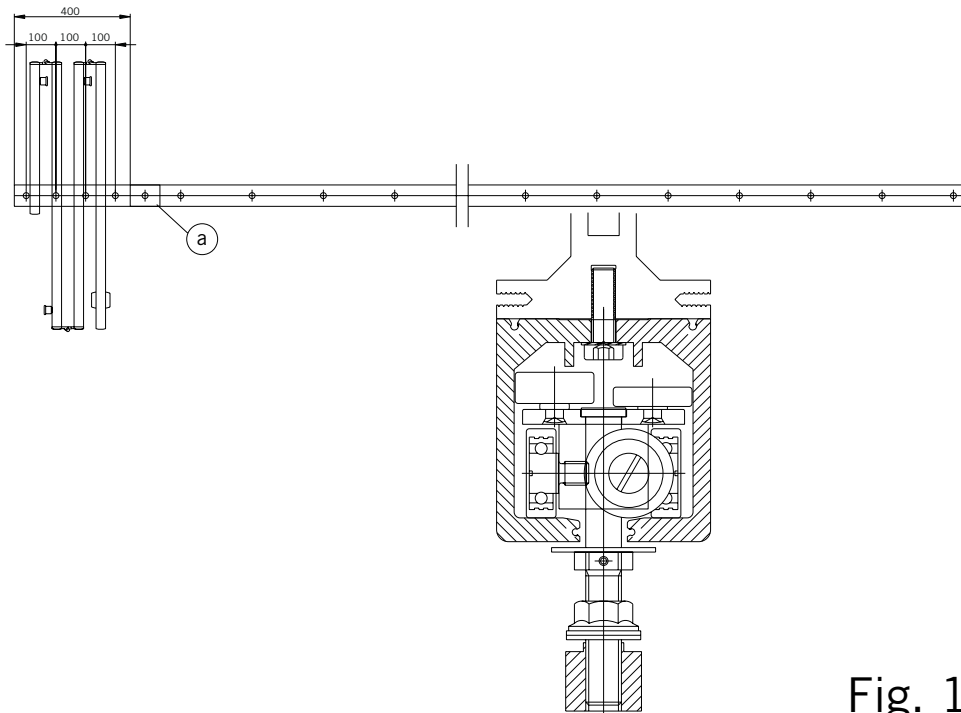

Fig. 1
1. Ceiling substructure and installation of the track rail (Fig. 1):